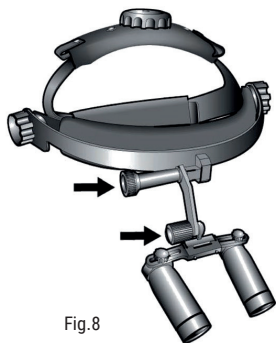

Fig.8
- Position the telescopes in approximately the correct position in front of your eyes. Slightly loosen both adjustment knobs so that the telescopes can be moved easily. Vertically align each telescope. (Fig. 8).